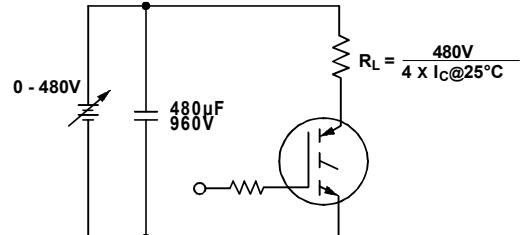

Fig. 13b - Pulsed Collector Current Test Circuit
- ① Repetitive rating; $V_{\text{GE}} = 20\text{V}$, pulse width limited by max. junction temperature. (See fig. 13b)